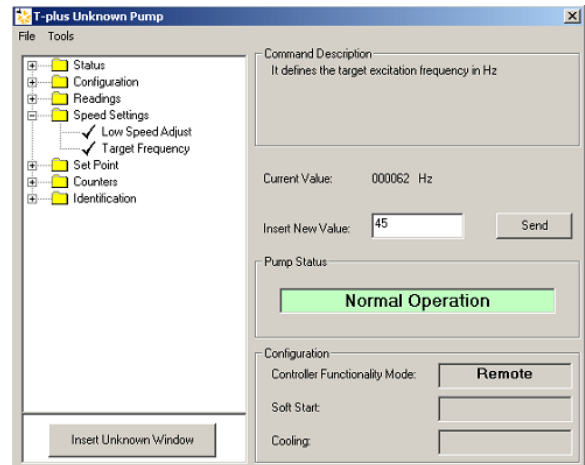

Figure 5 T-Unknown Pump
5. Click **Open Control Panel** and Figure 5 appears.